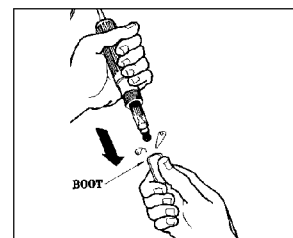

FIGURE 15
3. (New sensors only) Wet tip of sensor and carefully remove the liquid filled, protective rubber boot from the sensor's tip (see fig. 15). Do not allow sensor's tip to dry out! Save boot for future use.